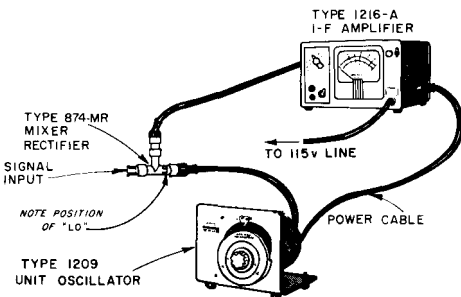

Figure 5. Setup of Unit Oscillator and Mixer Rectifier for Use as Frequency Converter.
3.4 UNIT OSCILLATOR AS A FREQUENCY CONVERTER. Connected to a Type 874-MR Mixer Rectifier, the Unit Oscillator can provide the local signal in a heterodyne converter to adapt the Type 1216-A Unit I-F Amplifier for use as a sensitive detector for v-h-f and u-h-f signals. (See Figure 5.) Without additional tuning, the conversion loss is about 6 db at an intermediate frequency of 30 Mc. The Type 1216-A I-F Amplifier has a built-in precision attenuator and a panel meter. Its bandwidth is 0.7 Mc and it has excellent mixer sensitivity. Provision is made for the measurement of the rectified mixer current in the i-f amplifier,